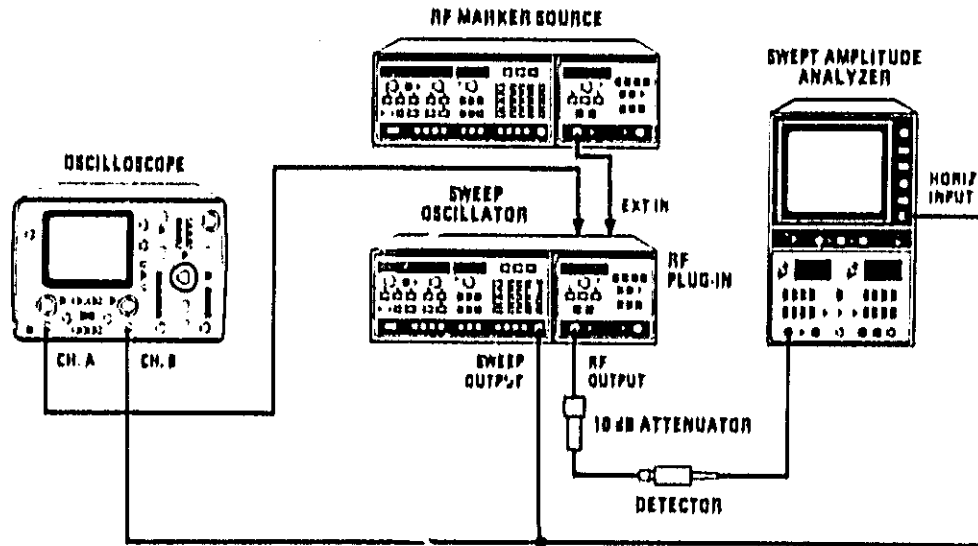

Figure 5-39. External Marker Adjustments Test Setup
1. Connect the equipment as shown in Figure 5-39. Set external marker source to a CW frequency of 150 MHz. Press AMPTD MKR. Set power level between -10 and +10 dBm.